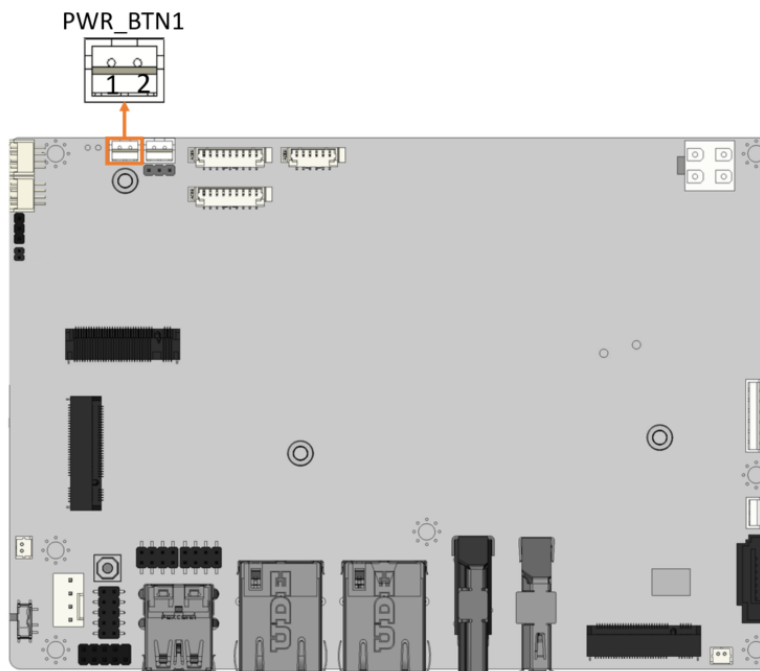

Figure 4-10: Power Button Connector Location
- CN Location:** See **Figure 4-10**